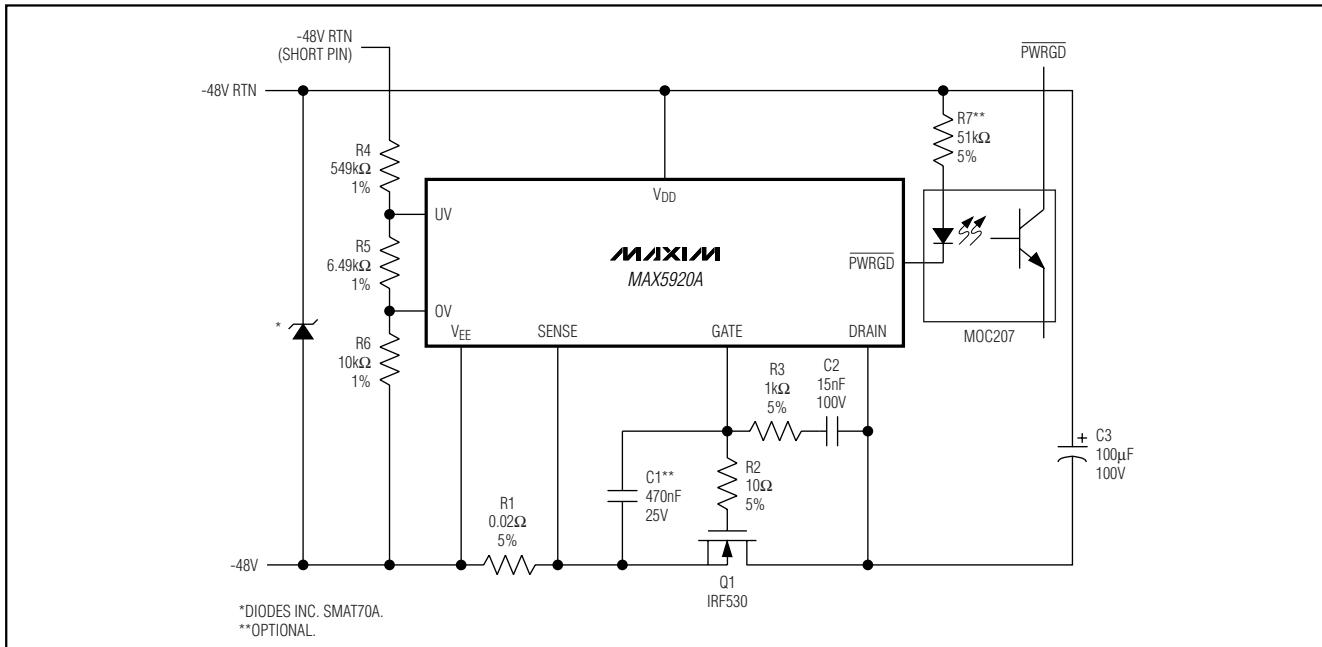

Figure 14. Using PWRGD to Drive an Optoisolator
The PWRGD signal can also be used to turn on an LED or optoisolator to indicate that the power is good (Figure 14) (see the *Component Selection Procedure* section).
- If an optocoupler is utilized as in Figure 14, determine the LED series resistor: